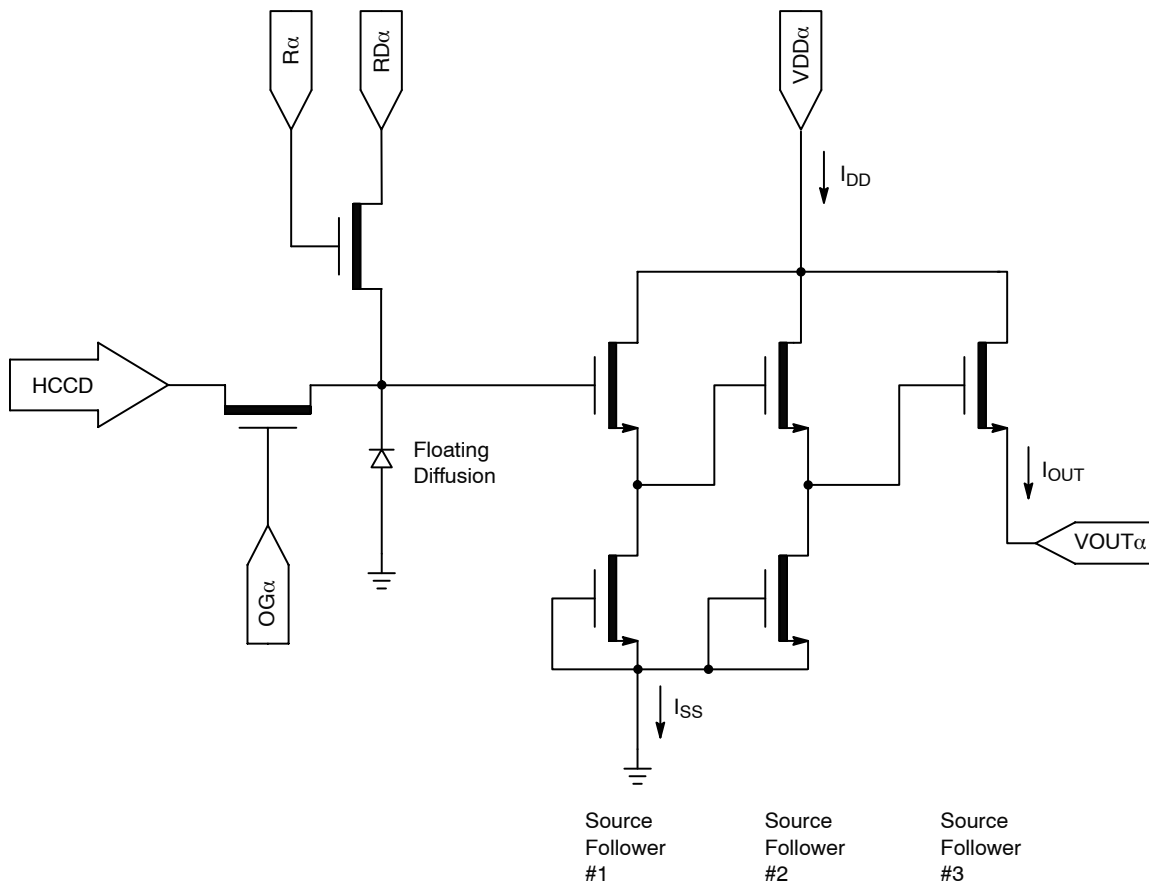

Figure 17. Output Amplifier
2. The maximum DC current is for one output. $I_{DD} = I_{OUT} + I_{SS}$. See Figure 17.